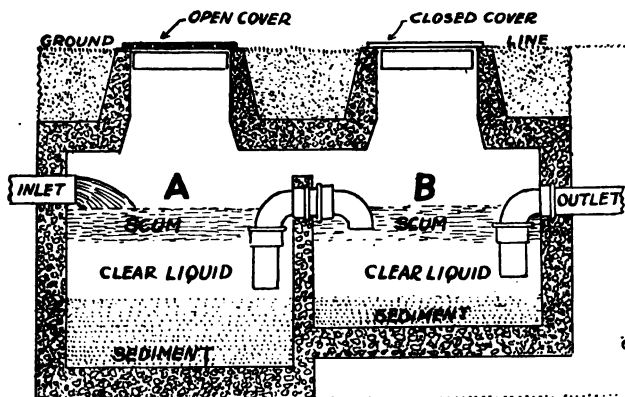

FIG. 82. Details of septic tank.
**153. Construction of the Septic Tank.** The septic tank is composed of two chambers—one the liquefying chamber and the other the oxidizing chamber. Both are water-tight (Fig. 82). The fresh sewage comes into the liquefying chamber thru a pipe placed near the top of the tank. Here it stands and liquefies, which is a process of decomposition. The solids fall to the bottom as they come into this chamber, and the liquid formed rises to the top and flows into the oxidizing chamber (B, Fig. 82), when it reaches a point a little below the height of the inlet pipe. It either does this by flowing over a partition or thru a pipe leading from one compartment to the other.